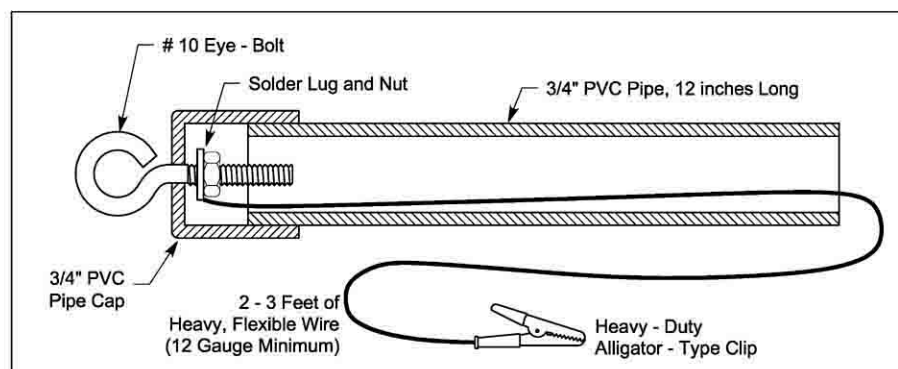

Figure 1—The "chicken stick" is a great way to ensure that everything inside the amplifier that should be discharged actually is. It can be a life saver.
- **A Chicken Stick**—Make this simple safety accessory shown in Figure 1 and use it whenever you work on equipment in which hazardous voltages have been present. The ground wire should be heavy duty (12 gauge minimum) due to the high peak currents (hundreds of amperes) present when discharging a capacitor or tripping a circuit breaker. When equipment is opened, touch the tip of the stick to every exposed component and connection that you might come in contact with. Assume nothing—accidental shorts and component failures can put voltage in places it shouldn't be.